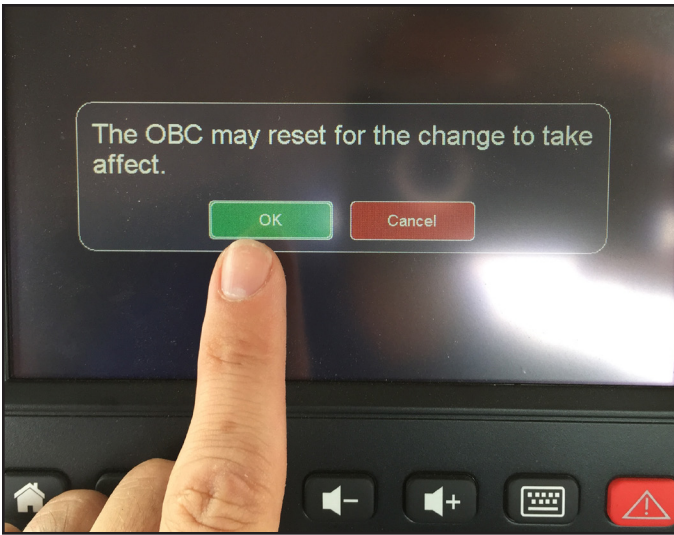

Figure 11 – Sign-on Screen
11. The following display will show a pop-up text box with “The OBC may reset for the change to take effect.” plus two selection icons. *Select the green OK icon and allow the system to reboot. See Figures 11 and 12.*